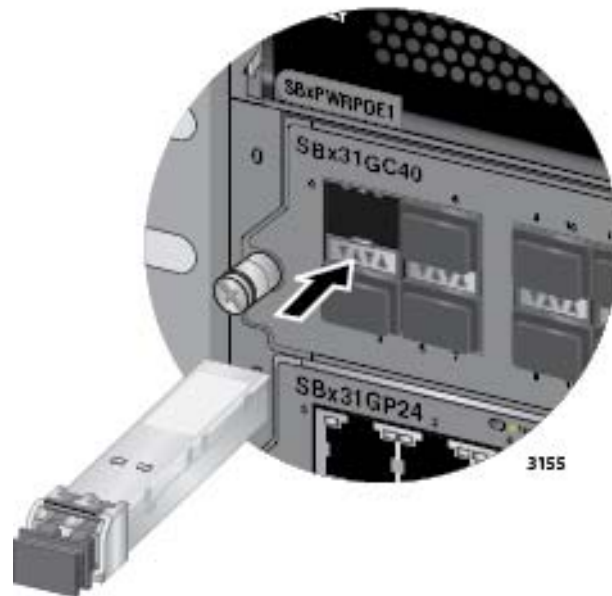

Figure 91. Inserting an SFP or a CSFP Transceiver
- Slide the transceiver into the slot until it clicks into place, as shown in Figure 91.